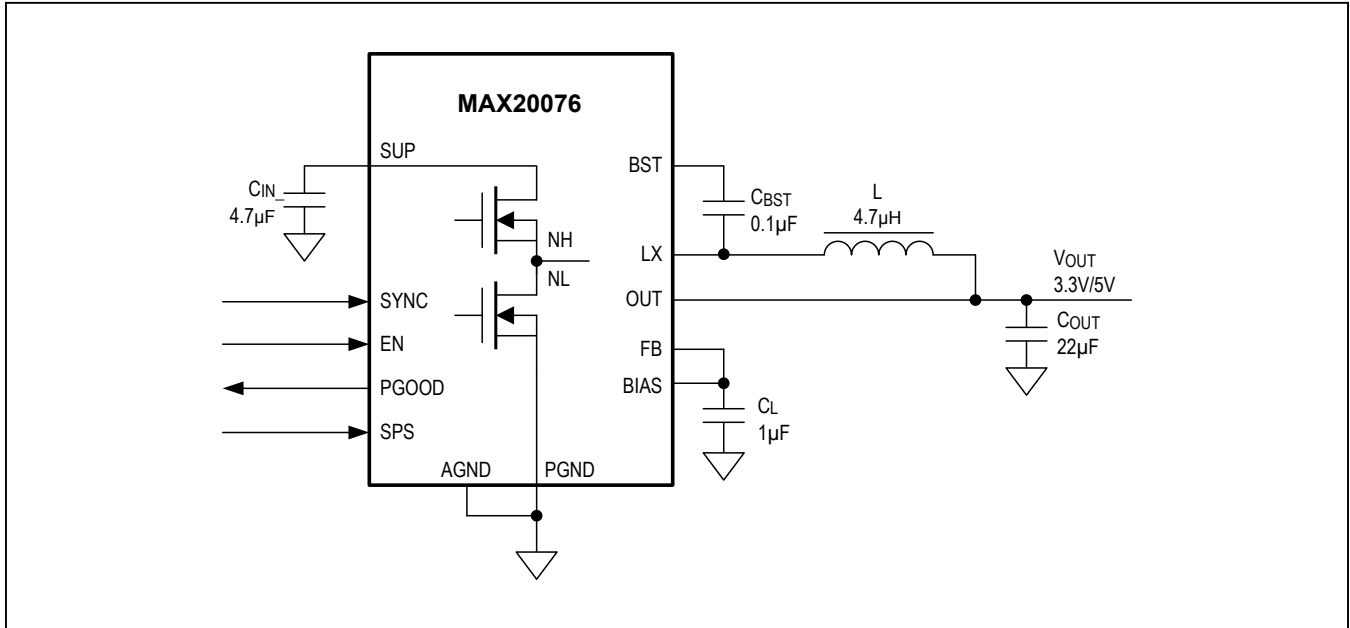
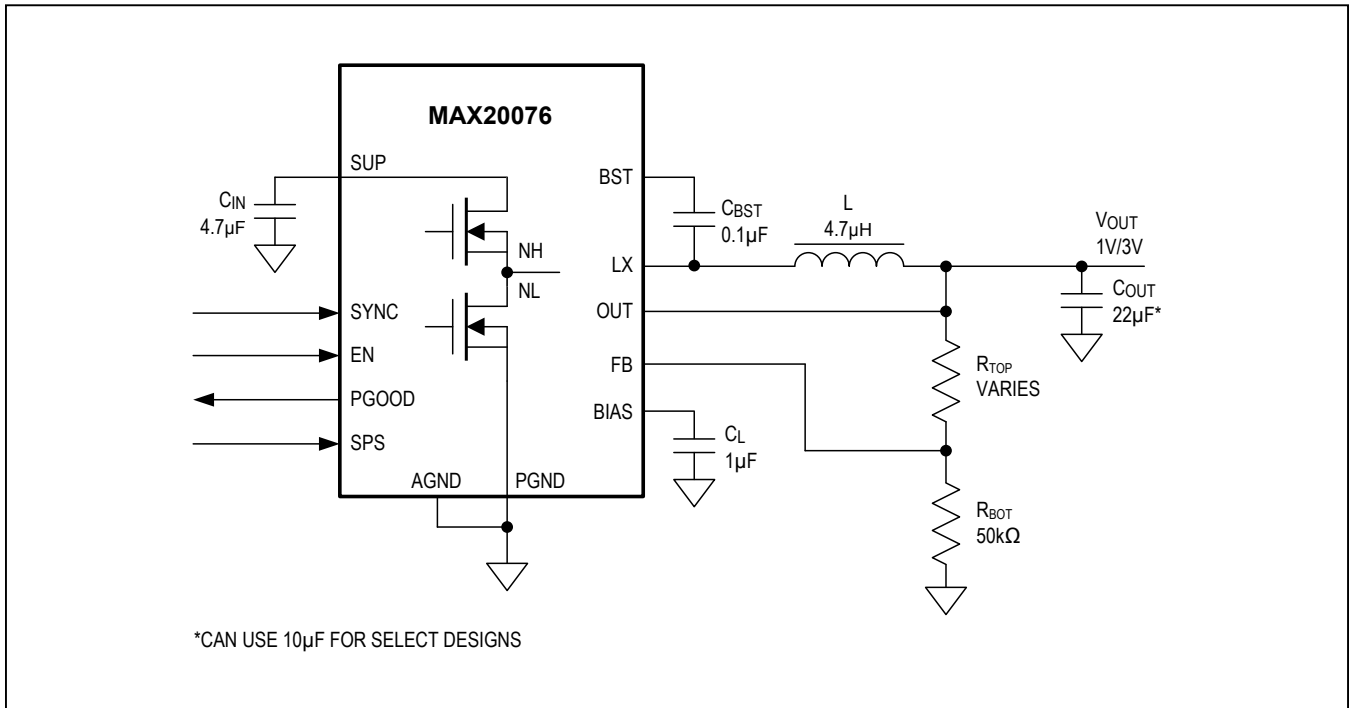
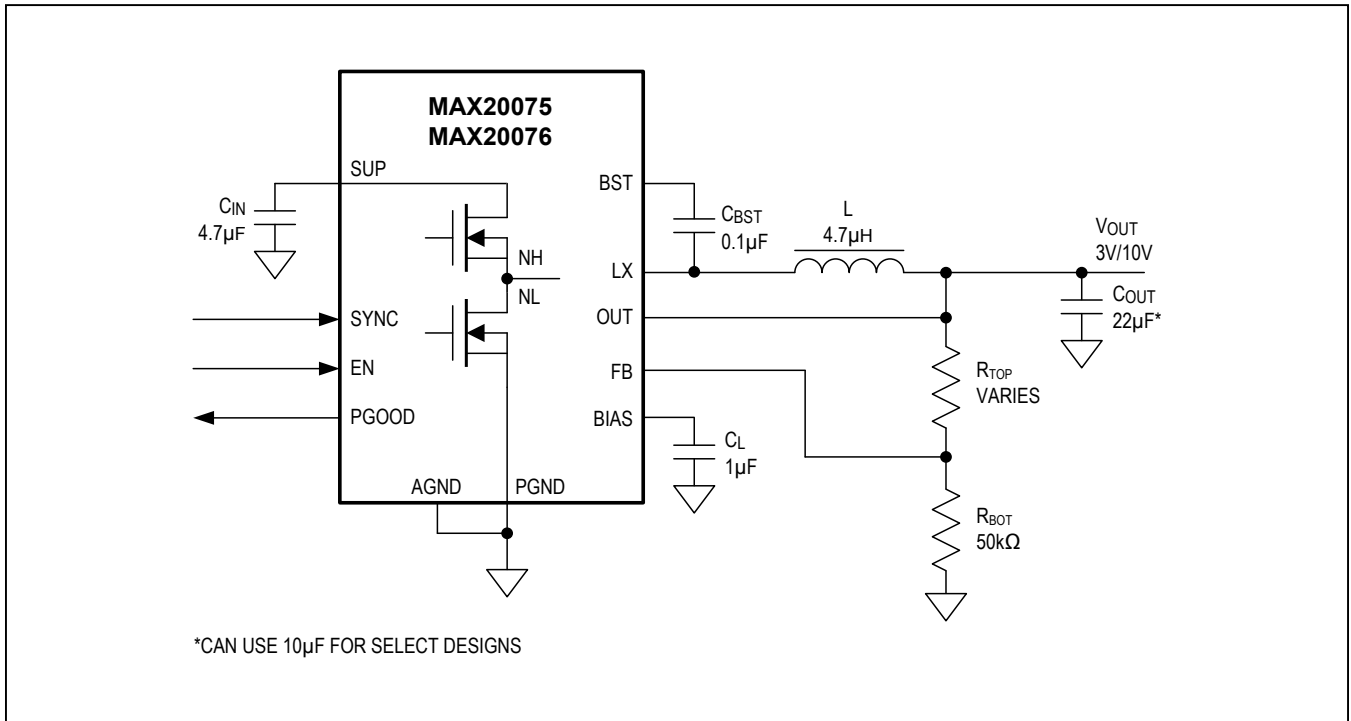

Figure 2. MAX20076 3.3V/5V Fixed 1.2A Output in 12-Pin TDFN Package
Figure 3. MAX20076ATCC/V+ 1V/3V Variable 1.2A Output in 12-Pin TDFN Package
Figure 4. MAX20075/MAX20076 3V/10V Variable Output
- 1) The input capacitor (4.7 μ F, see Figure 2, Figure 3, and Figure 4) should be placed right next to the SUP pin. Since the MAX20075/MAX20076/MAX25276 operate at 2.1MHz switching frequency, this placement is critical for effective decoupling of high-frequency noise from the SUP pins.